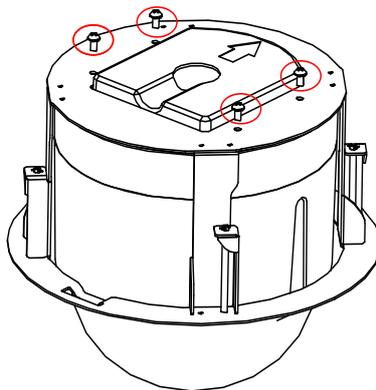

Figure 2-40 Remove the Screws
1. Loosen and remove the 4 screws as shown in Figure 2-40.